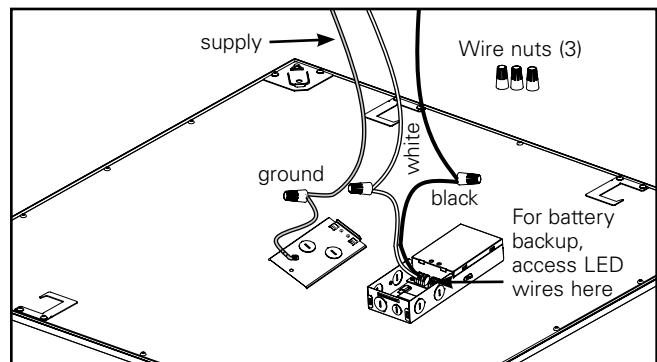

Figure 5.
7. Using the open knockout bring in the supply line. Using the three provided wire nuts to attach the ground wire to the ground supply wire, the black (line) wire to the black supply wire, and the white (neutral) wire to the white supply wire (Fig. 5).
NOTE: This fixture is compatible with battery backup systems including the Suralites EBPLED7W and EBPLED14W. If using a battery backup system remove driver cover plate to access LED load wires and follow battery backup wiring instructions (Fig. 5). Ensure driver cover plate is reinstalled after wiring.